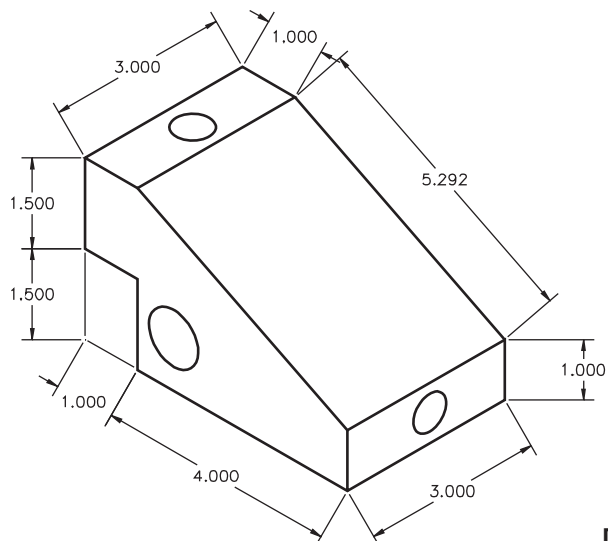

Fig. 38-7
2. In the lower left corner of the block, draw one horizontal and one vertical extension line as shown in Fig. 38-7.
3. Display the **Dimension** toolbar and use the **Aligned** button to create the dimensions as shown in Fig. 38-7.
Your drawing should now look similar to the one in Fig. 38-7.